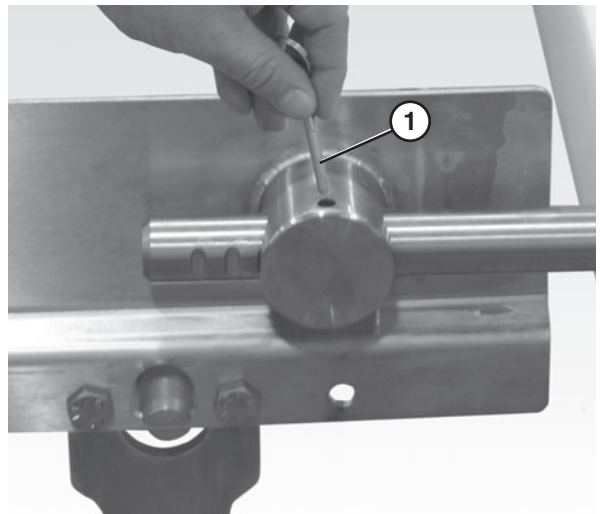

Figure 62
1. Remove the pull pins (Figure 62, item 1) on the tension end of the conveyor to release tension on the belt.